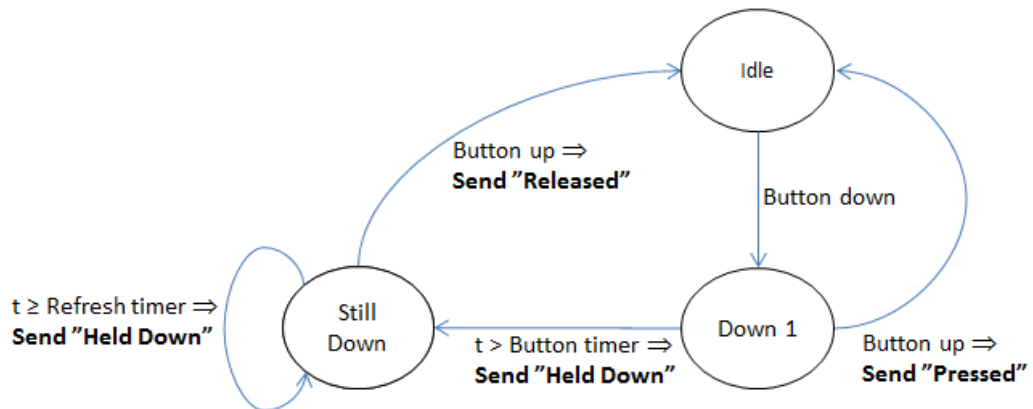

Figure 9, Central Scene version 1 button press decoding and timer management
- Notifications carrying these Key Attributes MUST comply with Figure 9.